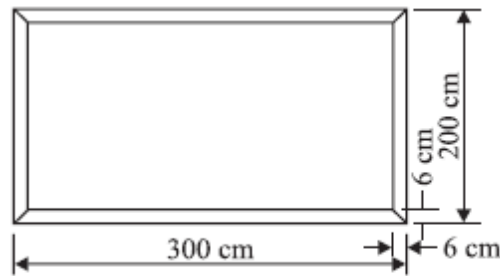

Fig. 5.28. Welded frame
13 A rectangular frame shown in Fig. 5.28 is to be made using plates of 300 cm × 6 cm × 4 mm and 200 cm × 6 cm × 4 mm sizes. Analyze the cost of filler metal and gases used to make 100 frames. The following data is available for leftward welding: (16) BT4